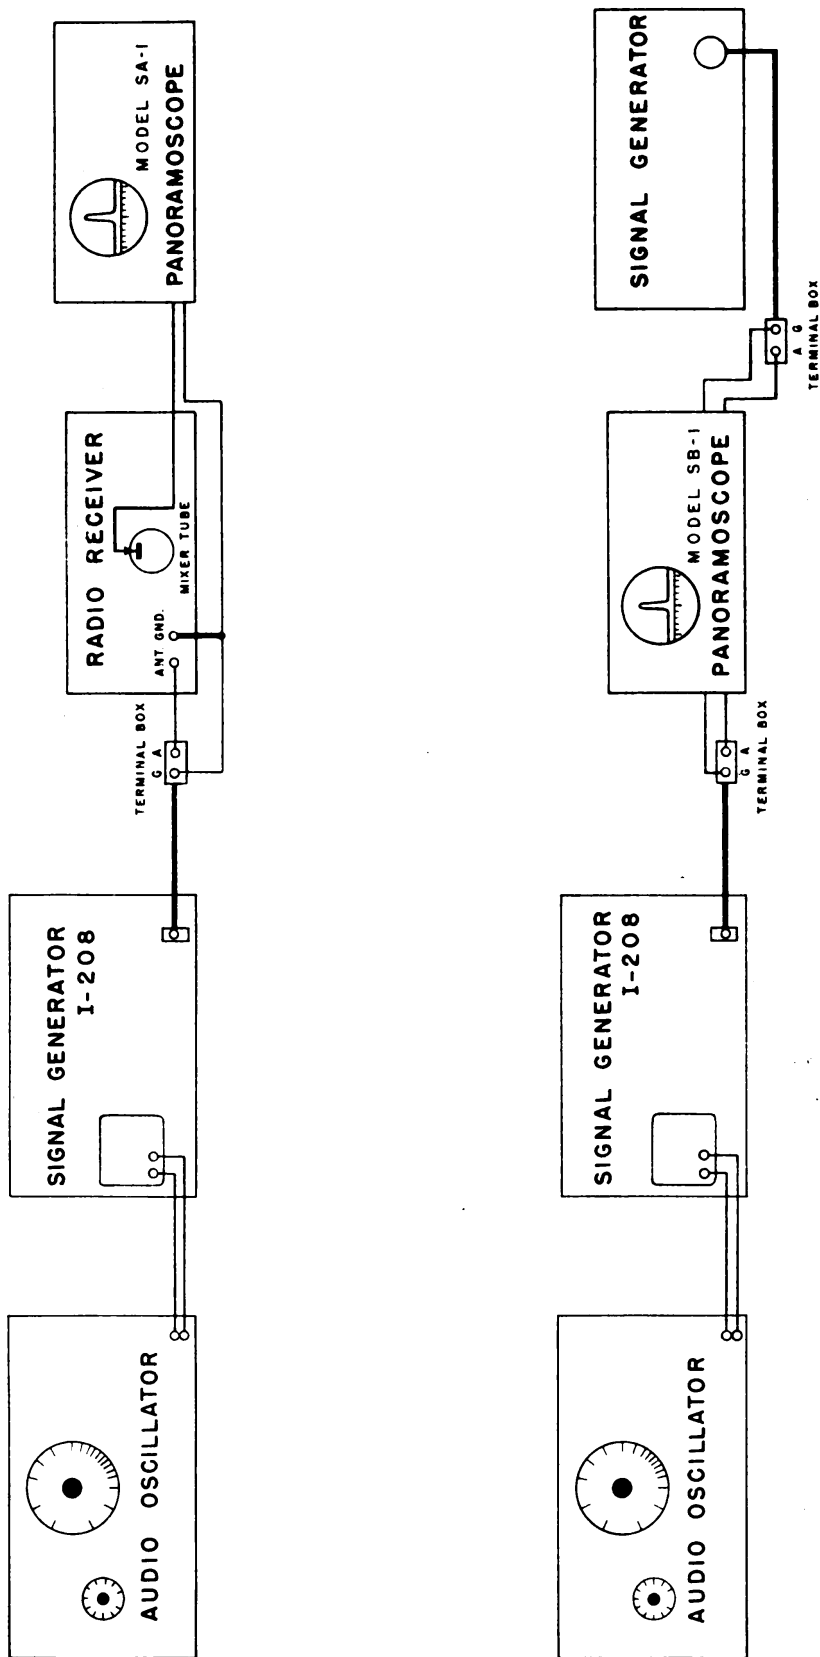
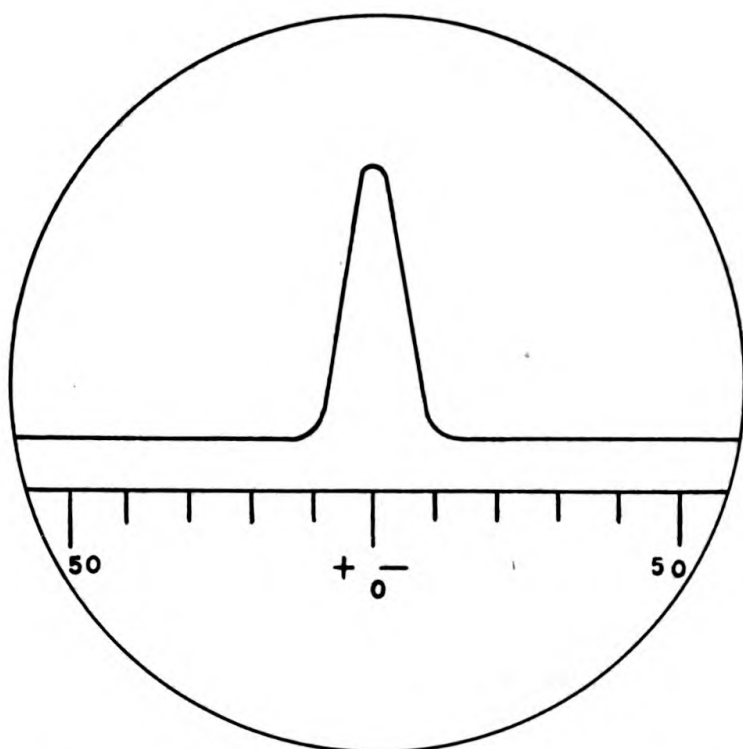
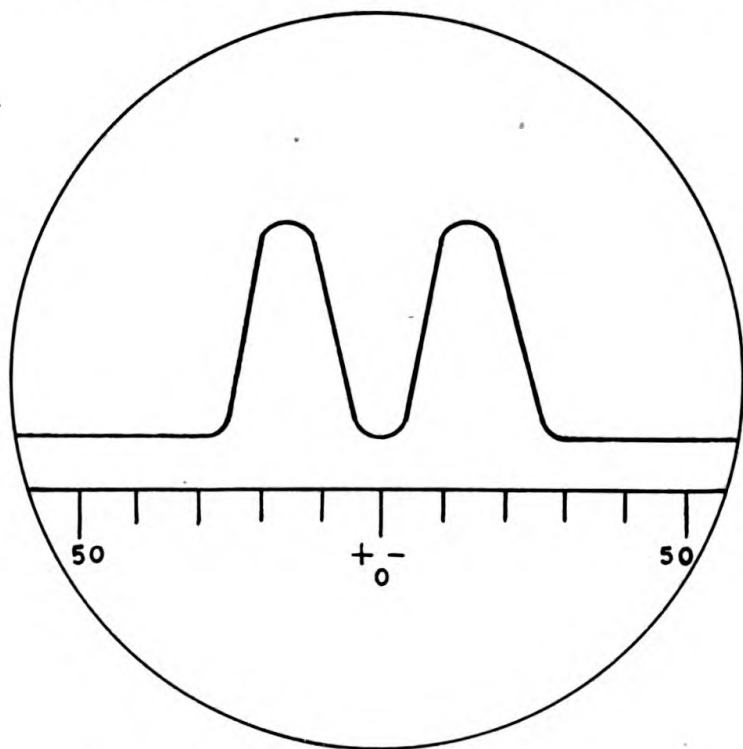

Figure 12—Block diagram showing methods of connecting Signal Generator I-208 to a radio spectroscopy
Figure 13—Panoramic pattern, unmodulated signal
Figure 14—Panoramic pattern, first null point
(1) Refer to figure 12 for the equipment necessary. Two setups are shown.
- (2) Connect the signal generator as shown in figure 12.
- (3) Set the MICROVOLTS control to 10.
- (4) Turn the multiplier switch to 10M.
- (5) Adjust the R.F. OUTPUT control so that the meter indicates approximately 1.
- (6) Turn the band switch to R.F. 19–45 MC.
- (7) Turn the signal generator to 19 MC.
- (8) See that the MODULATION FREQ. switch is at EXT. MOD. (OFF).
- (9) Turn the output gain control of the external audio oscillator to zero. Since the accuracy of this adjustment depends upon the frequency accuracy of the audio source, the external audio oscillator should be highly accurate. If such an oscillator is not available, the 5000-cycle modulation frequency of the internal audio oscillator may be used. In this case, however, the error in deviation accuracy introduced will then be a maximum of 5 per cent.
- (10) Throw the METER switch to AUDIO.
- (11) Turn the K.C. DEVIATION control to 43.
- (12) Tune the radio receiver to the frequency of the signal generator. At this point a pattern as shown in figure 13 should appear on the panoramic screen.
- (13) Set the frequency of the external audio oscillator to 5000 cycles per second.
- (14) Turn the gain control of the external audio oscillator slowly to the right until the center frequency peak reaches the horizontal axis. This is a center frequency null point (figure 14). Continue to turn the audio gain control until the third consecutive null point has been reached and leave the control in this position.
- (15) Turn the K.C. DEVIATION control to 50.
- (16) Adjust variable resistor R_{29} so that the meter indicator is coincident with the red line.
- (17) Turn the tuning dial counterclockwise (left) to 45 MC.
- (18) Audio meter reading at 50 KC should be 1.0. If it is not, adjust DEVIATION CORRECTOR until the audio meter reads 1.0.